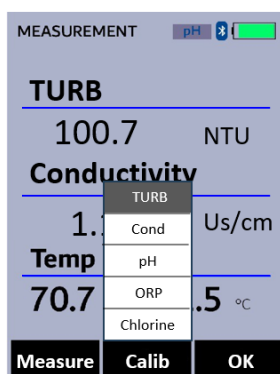

Figure 31.
3. Press **Calib** (**>**) as needed to highlight **Chlorine** calibration in the selection menu (Figure 31).